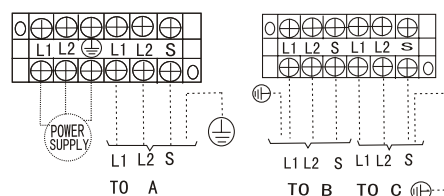

Fig.56
For some models, the indoor unit is especially designed to be used as either MULTI models or MONO models. If your air conditioner is not set to the MULTI position, see the following INDOOR WIRING DIAGRAM to modify the indoor unit from MONO model to MULTI model. (Fig.56 & 57)
2. Remove the POWER SUPPLY cord of MONO model (Fig.56).
4. Reinstall the Electrical Control cover and screw, rip off the white paper above the Slide Switch and move it to the MULTI position (see Fig. 56).